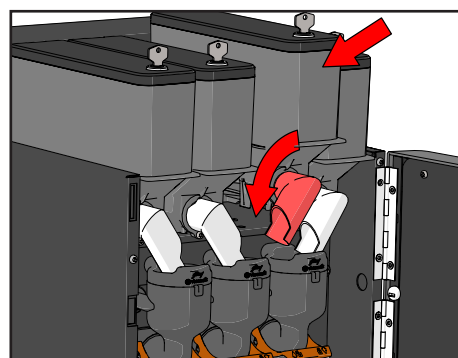

Figure 46.
5. Replace the canister and turn the spout to the correct position (see Figure 46).